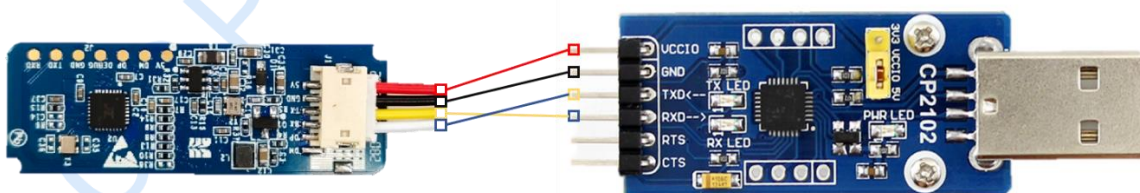

Figure 4-2 Example of connecting the CS202 hardware to the USB serial port tool
- b) Connect the CS202 module to a USB serial port tool using Dupont threads, as shown in Figure 4-2;